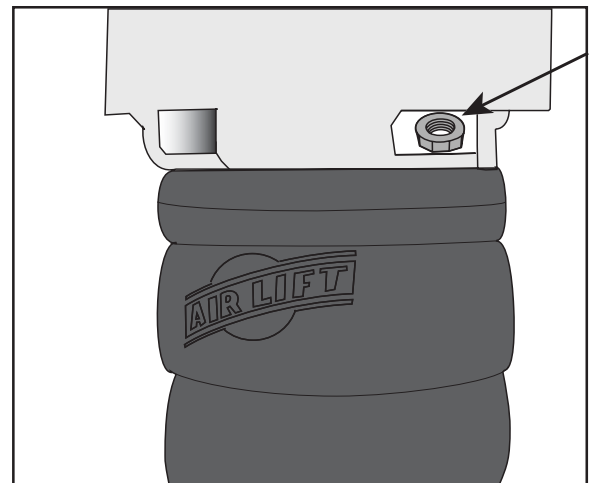

Figure 12
Set whiz nut (O) up inside of the upper bracket (Fig. 12 & 13) with flange up (Fig. 12).